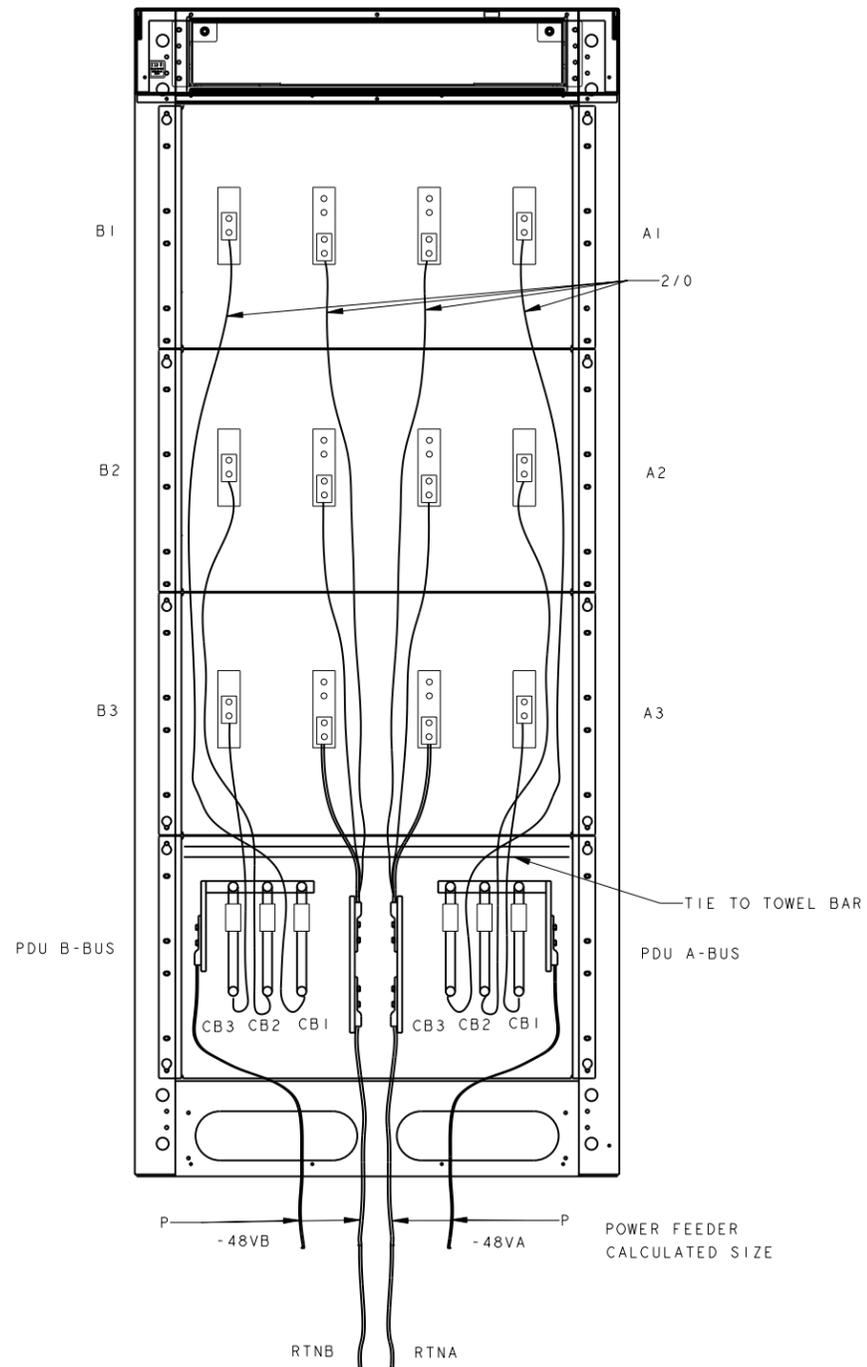

FIG. C165
5. IF THE GPDF CABINET IS EQUIPPED WITH A PDU (POWER DISTRIBUTION UNIT ED-82947-31), IT SHALL BE LOCATED AT POSITION 4 (BOTTOM OF THE CABINET) FOR EITHER SLAB OR RAISED FLOOR INSTALLATIONS. THE PDU AND ASSOCIATED CABLES MAY BE ORDERED FROM J86334E-1. SEE FIG. C165